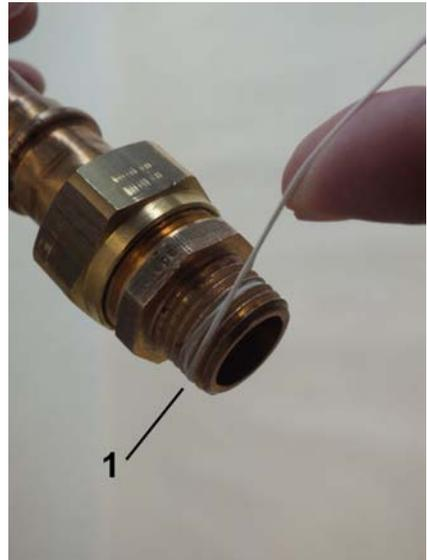

Fig. 8: Apply sealing thread
2. → Apply sealing thread (Fig. 8/1) to the napped area in the threaded direction. Observe the quantity recommended by the sealant manufacturer.